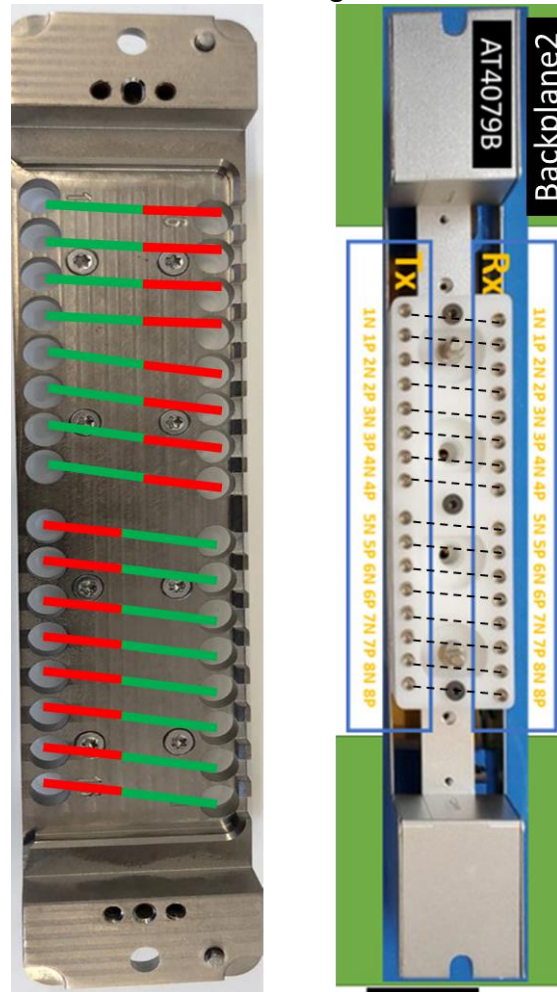

Figure 16: Example on Loopback Configuration – AT4079B only
- Figure 16 shows an AT4079B loopback configuration, illustrating how the transmitted signals (left side) are looped back into the error detectors (right side). The GREEN and RED cables are interchangeable and can be used for either the Tx side or Rx side.